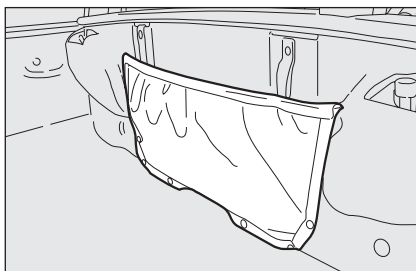

fig. 78
- ❑ Open the lids fitted on the front finishes, slacken the knobs and remove the Wind stopper; stow it into the proper pocket obtained on the front side of the top compartment **fig. 78**.
Stow the Wind stopper inside the pocket located on the front side of the top compartment **fig. 78**, check for proper positioning and then complete the top closing cycle.